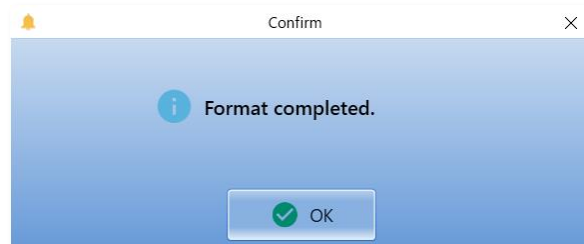

Figure 6.29 Completion message
- (3) Initiates memory format. Format is completed if you see the confirmation message shown below. (Figure 6.29)